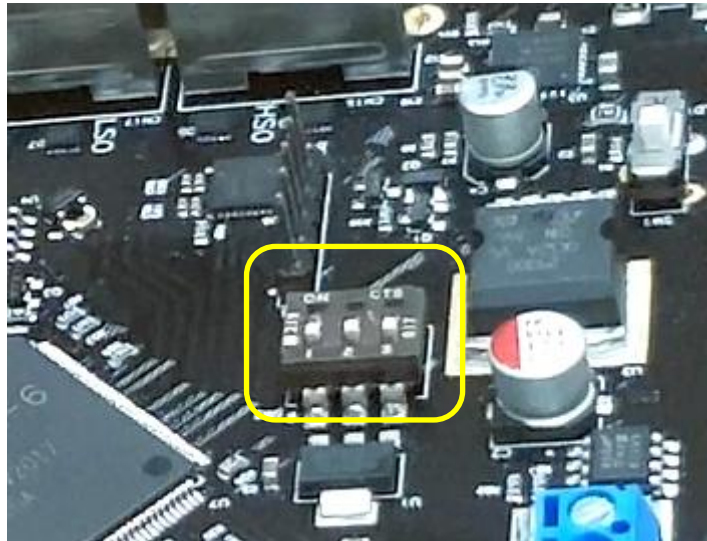

Figure 3. On-Board DIP Switches Set To FPGA Update Configuration
The FPGA update is very simple and can be done within a couple of minutes. It is also permanent, since on-board memory holds up to seven (7) different FPGA configurations. Users can choose the FPGA configuration for their application by on-board DIP switches (Figure 3). Depending on the programmed configurations, the Pixblasters MS1 can be setup in the master or slave mode, to support 3-wire WS2812B-like or 4-wire APA102-like LED strips, and so on.
- Set the on-board DIP switches to 000 (Figure 3). This activates the service mode and enables the FPGA update.